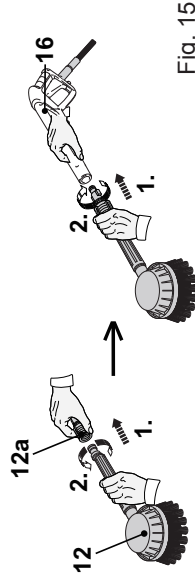

Fig. 15
1. Ensure the adaptor (12a) is fitted on the rotary brush (12). Then align the tongues of the adaptor (12a) with the grooves of the spray gun (16) and insert it.
2. Securely fit the accessory by turning it clockwise and let it lock into place (Fig. 15).